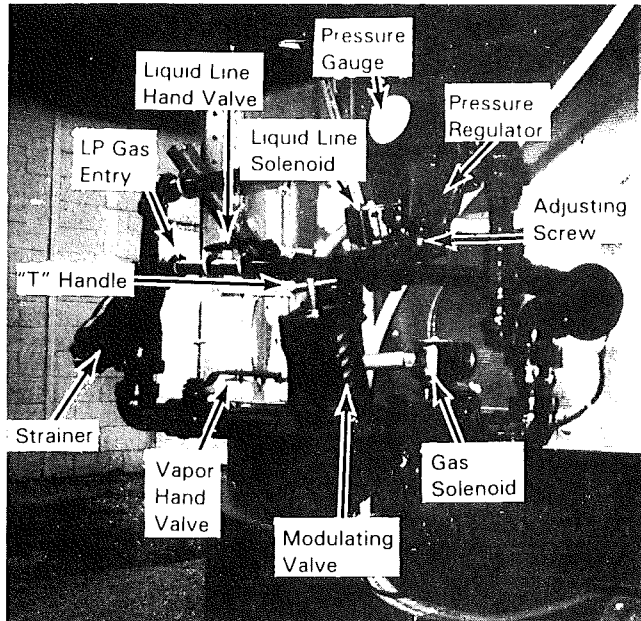

Figure 16
2. Liquid Propane (LP) Fuel:
- A. Turn the LP liquid line hand valve (Figure 16) 90° to the piping to shut off the LP at the dryer.
- B. Turn the vapor hand valve (Figure 16) 90° to the piping to shut off the gas to the burner.
3. Natural Gas (NG) Fuel: